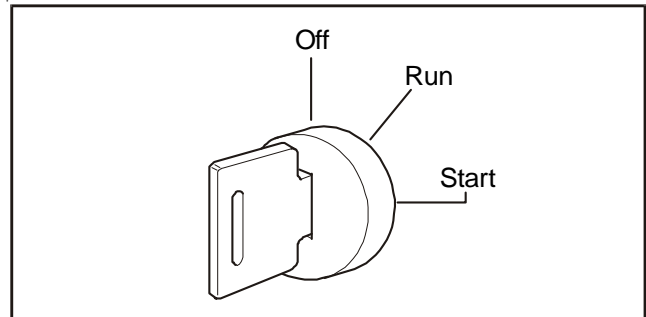

Figure 3-4. Ignition Switch
1. Place the gearshift in the neutral (N) position.
4. Turn the key to the "START" position. (See Figure 3-4).